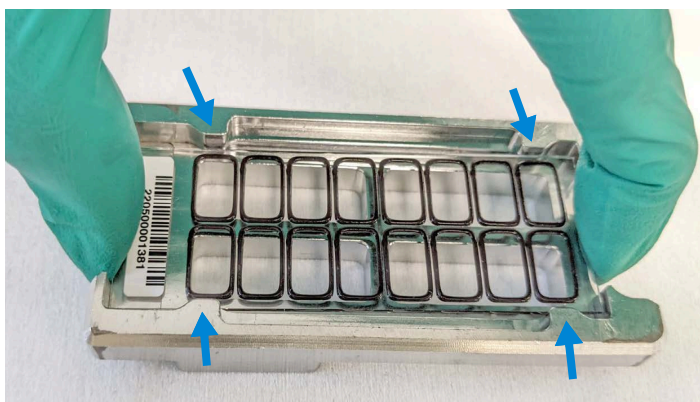

Figure 18 Chamber base with gasket and microarray slide applied, guide posts denoted with arrows
- 2 Use the four chamber base guideposts and rectangular end of the base to position the microarray slide as you lower it to within 3 mm (1/8") above the gasket slide, making sure the microarray slide is not tilted with respect to the gasket slide. Barcode ends of both the gasket slide and the microarray slide must line up at the corners of the chamber base. Once positioned, gently rest the microarray slide on the lower gasket slide. Refer to **Figure 18**.